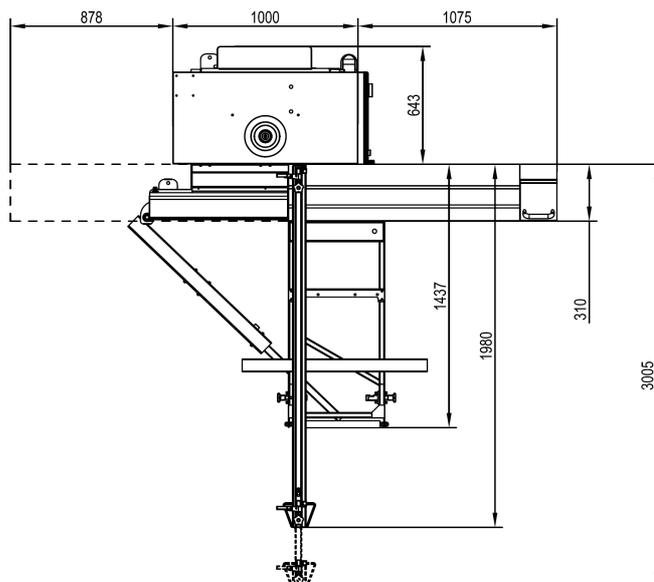

Fig.11
Space Requirements (Fig.11)
**Space required:** (see Fig.11)